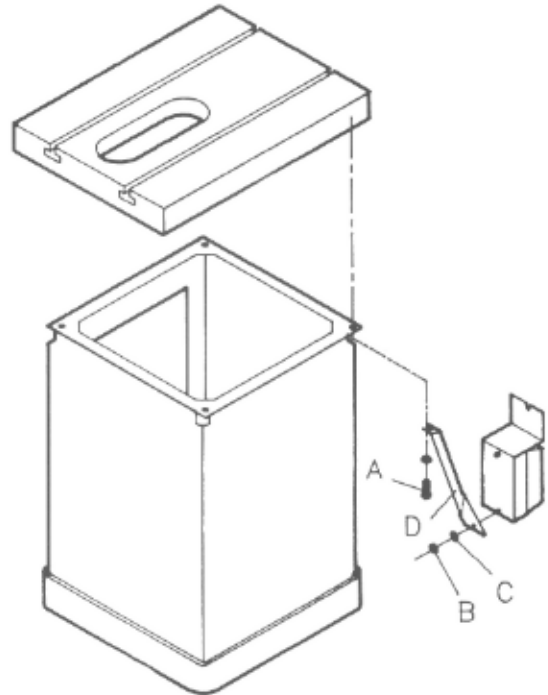

Fig. 3-1
4. Loosen (do not remove) hex socket cap screw (A, Fig. 3-1). Do not remove the table - this is for illustration purposes only.
5. Slide the open tab of the switch brace (D, Fig. 3-1) onto the hex socket cap screw and washer and hand tighten.
6. Remove the nut (B, Fig. 3-1) and star washer (C, Fig. 3-1) from the screw at the bottom of the switch plate.